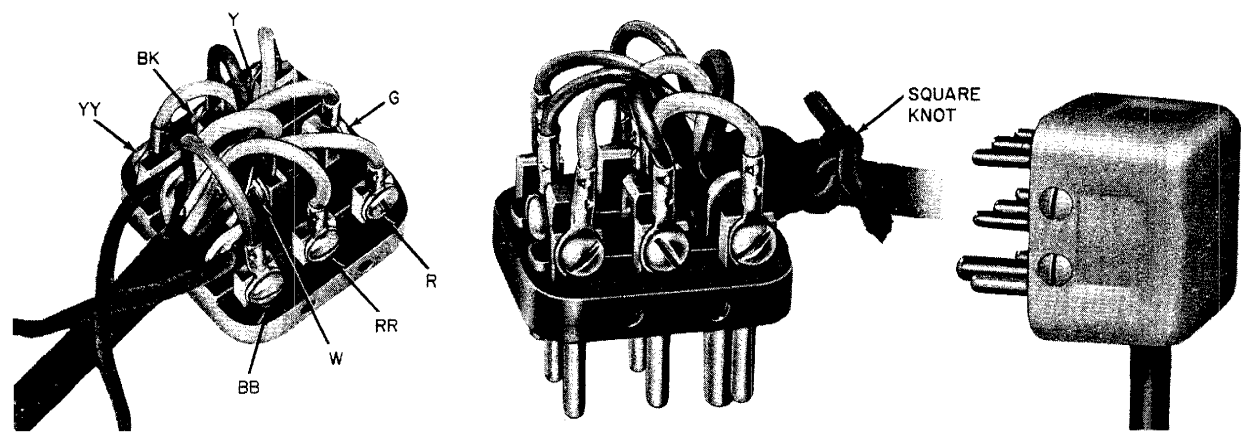

Fig. 5—274A Plug
**2.06** The 274A plug (Fig. 5) is a 2-piece, 8-contact plug of molded plastic. It is intended for use with braided fabric covered mounting cords and is equipped with two eyes to which the braid is secured. It is available in color as shown in Table B.